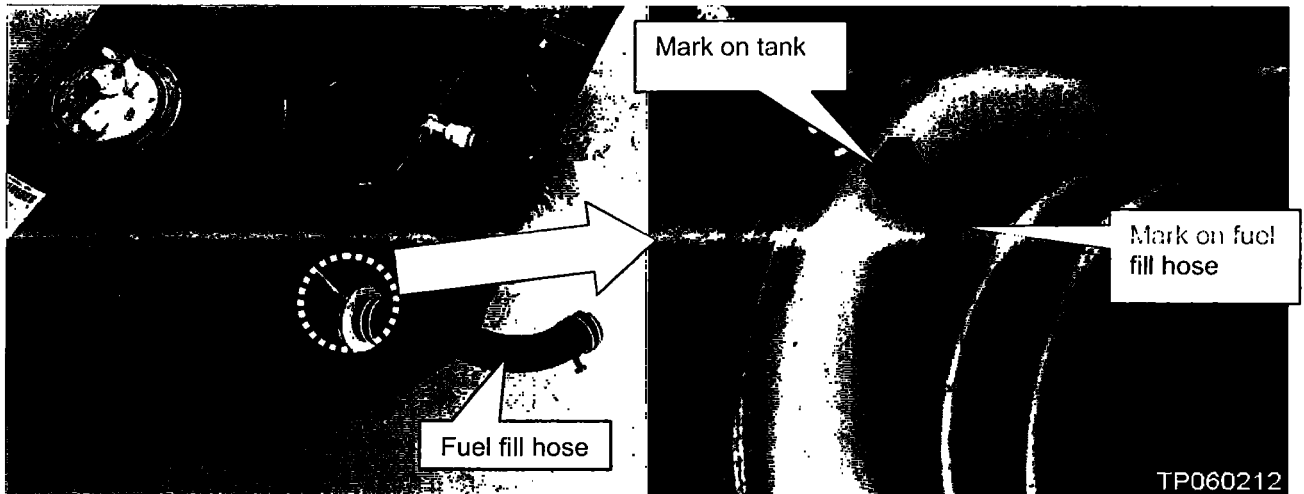

Figure 70
- Line-up the mark on the hose with the mark on the tank (see Figure 70).